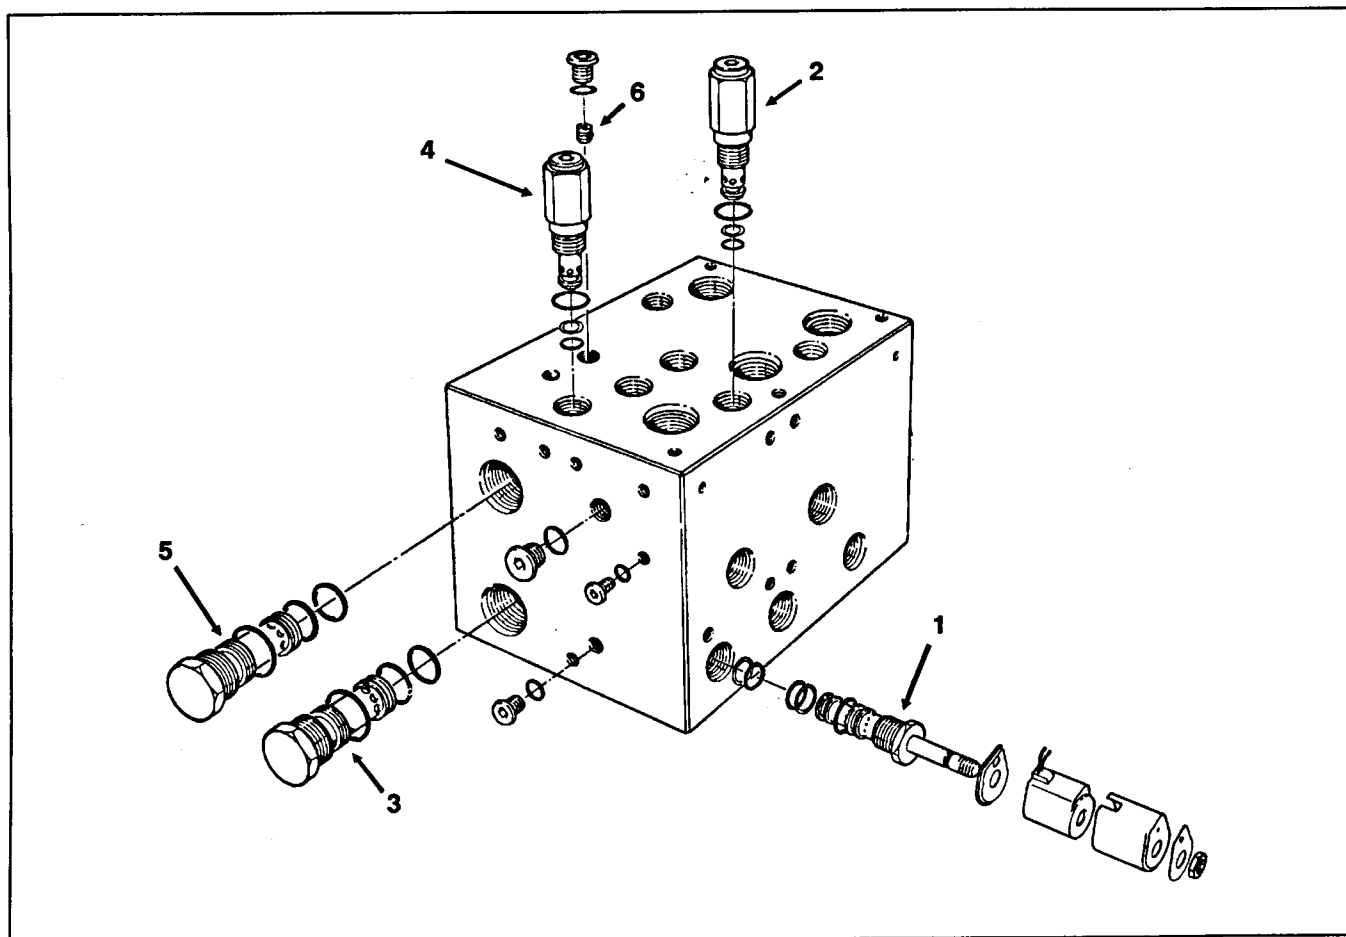

Figure 27
2. Remove nut from solenoid (Fig. 27).